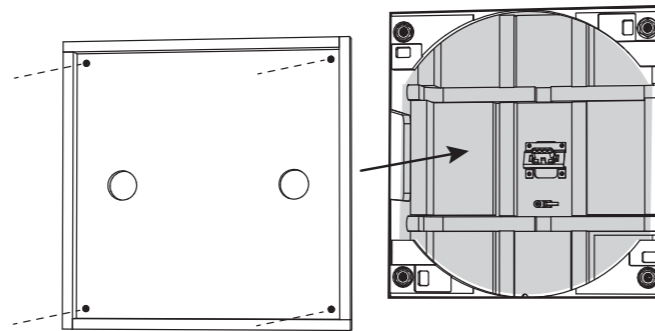

Fig. 5. Drywall Removed from the Aperture, and Cover Installed
2. After drywall installation, carefully cut out the hole in the drywall with a suitable handtool, using the rectangular aperture of the back can as a guide (Fig. 5). Be careful not to cut the speaker wires or any of the back can wood. Make sure the drywall aperture is no larger than the aperture of the back can. Remove any dust or debris from within the back can.